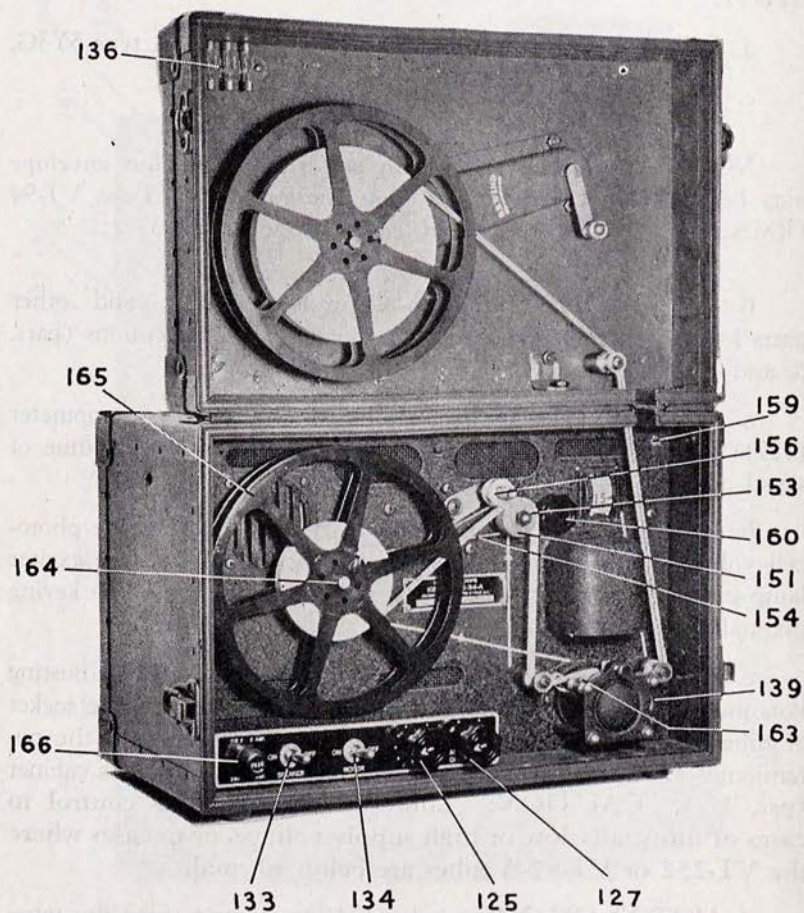
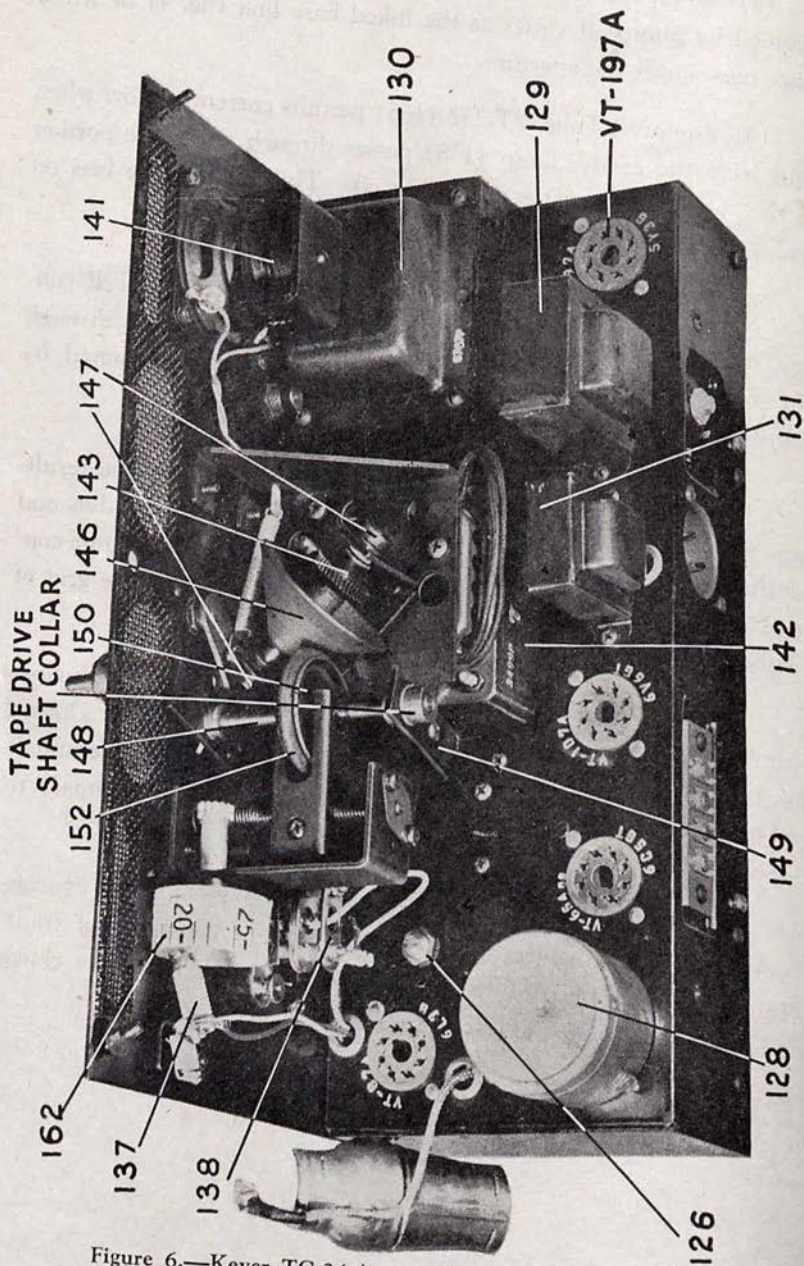
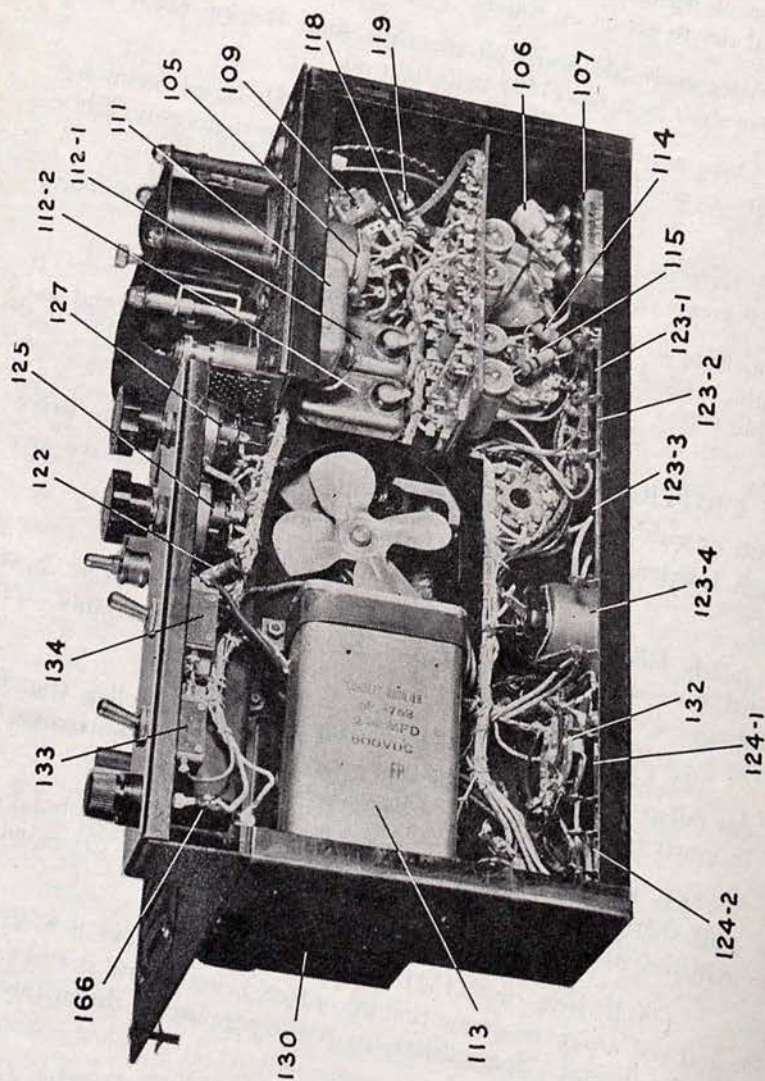
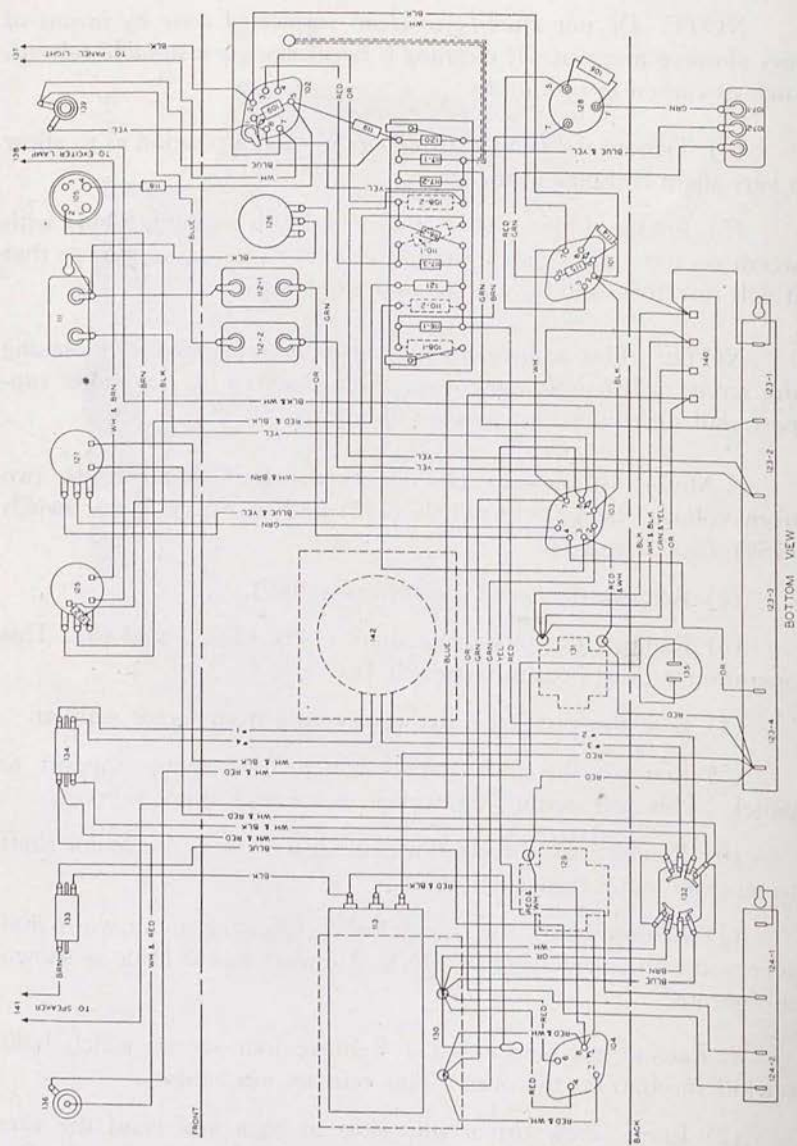

Figure 3.—Keyer TG-34-A, ready for operation.
Figure 6.—Keyer TG-34-A, top view, cabinet removed.
Figure 7.—Keyer TG-34-A, bottom view.
Figure 8.—Practical wiring diagram.
(b) *Proper Fuse.*—For operation on 115 volts use a 2-ampere fuse; for 230-volt operation use a 1-ampere fuse. Install proper fuse in FUSE holder (166) (fig. 3) located at lower left on front of unit. The unit is shipped with a 2-ampere fuse in holder.
(4) *Hand Key.*—To use the TG-34-A with a hand key, connect key to terminals of a PL55 or similar plug and insert in jack (139) (fig. 3) located at lower right corner of front panel. Be sure the PE CELL control is turned to off position when keying manually.
9. OPERATION.—a. *Step-by-step procedure.*—(fig. 3) (1) Turn AC OFF VOLUME control (127) to the right to point about halfway around dial. Panel light (137) will illuminate tape speed indicator dial (162) (fig. 6).
(2) Turn SPEAKER ON-OFF switch (133) to ON.
(3) Mount and thread practice tape (par. 8b.).
(4) Turn MOTOR ON-OFF switch (134) to ON. Move the pressure roller downward until it contacts the tape on the drive roll. Tape will start to move over anvil.
(5) Turn PE CELL control (125) to the right until keyed signal is heard. Exciter lamp (138) (fig. 6) will light. Adjust PE CELL control to position which gives clear-cut signals. Additional cell voltage can be obtained by adjusting potentiometer (126) located on the chassis near the socket of tube VT-87-A (fig. 6) (par. 12h).
(6) Adjust tape-speed control knob (160) to desired operating position, and AC OFF VOLUME control (127) to desired signal level.
(7) If headsets or remote speakers are being used, turn SPEAKER ON-OFF switch to OFF.
*b. Rewinding the tape.*—(fig. 3) When tape has run through keyer, rewind as follows:
(1) Turn MOTOR switch to OFF.
(2) Lift pressure roller off drive roll.
(3) Pass tape under second guide roller over first guide roller and into slot in rewind tape reel hub.
(4) Rotate rewind crank clockwise, with a slow even motion until sufficient tape is rewound.
*c. Normal operation.*—(1) Tape speed indicator dial (162) is lighted up.
h. If no signal is obtained, Tube VT-87-A (102) is still biased to cut-off, and cell voltage must be increased to start keying. If steady signal is obtained, photocell is permitting too much current to flow, and cell voltage must be reduced to start keying. If adjustment of PE CELL control (125) does not provide the necessary correction, a larger photocell voltage change may be obtained by adjusting potentiometer (126). First, remove the chassis from the cabinet (par. 12a). Set the PE CELL control (125) about mid-way. A screw-driver slotted control (126) is located on the chassis near the socket of Tube VT-87-A (fig. 6). Adjust this control until the proper signal is heard. This is a coarse adjustment (126) and PE CELL control (125) is the fine adjustment. Once potentiometer (126) is properly adjusted, use the PE CELL control (125) to obtain the desired signal.
(2) Loosen setscrew on rear tape-drive shaft collar (fig. 6). An Allen wrench (168) for this purpose is part of maintenance kit in upper right-hand corner of keyer cabinet.
(3) Hold driven-wheel assembly (150) with your left hand and pull shaft (148) forward with right hand to release driven-wheel, which then may be lifted upward.
(4) If drive ring (152) is to be replaced, remove it by cutting and roll a new neoprene ring into place, being careful not to twist it in the process. Spare drive ring is also supplied in the maintenance kit.
(4) Free the pressure-roller cam spring from motor support.
(5) Remove the four screws which hold motor support to panel. This will permit removal of motor and motor support.
(6) Remove the three screws equidistant from the motor shaft to separate motor from support.
(7) Reassemble in the reverse order, adjusting motor worm and gear and hub assembly (par. 14b.). Connect motor leads as shown in figure 8.
d. *Rewind mechanism.*—(1) Remove four screws which hold rewind mechanism to cover. This releases mechanism.
*i. Power transformer.*—(1) Disconnect speaker (141) by unsoldering the two wires.
(2) Remove four screws that secure speaker to panel and remove speaker.
(3) Remove two mounting-bracket screws, nuts and lock washers on capacitor (113) (fig. 7).
(4) Slip capacitor from its clip and swing it over the fan opening without disconnecting capacitor wiring.
(5) Disconnect 11 transformer wires (fig. 8).
(6) Remove four transformer mounting nuts and lock washers, and lift out transformer (130) (fig. 6).